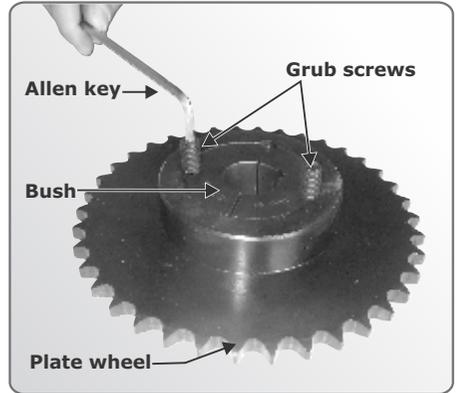

FIGURE 26
8. Insert the taper bush into the plate wheel as shown in Figure 26 and use the two grub screws to secure the bush in place.